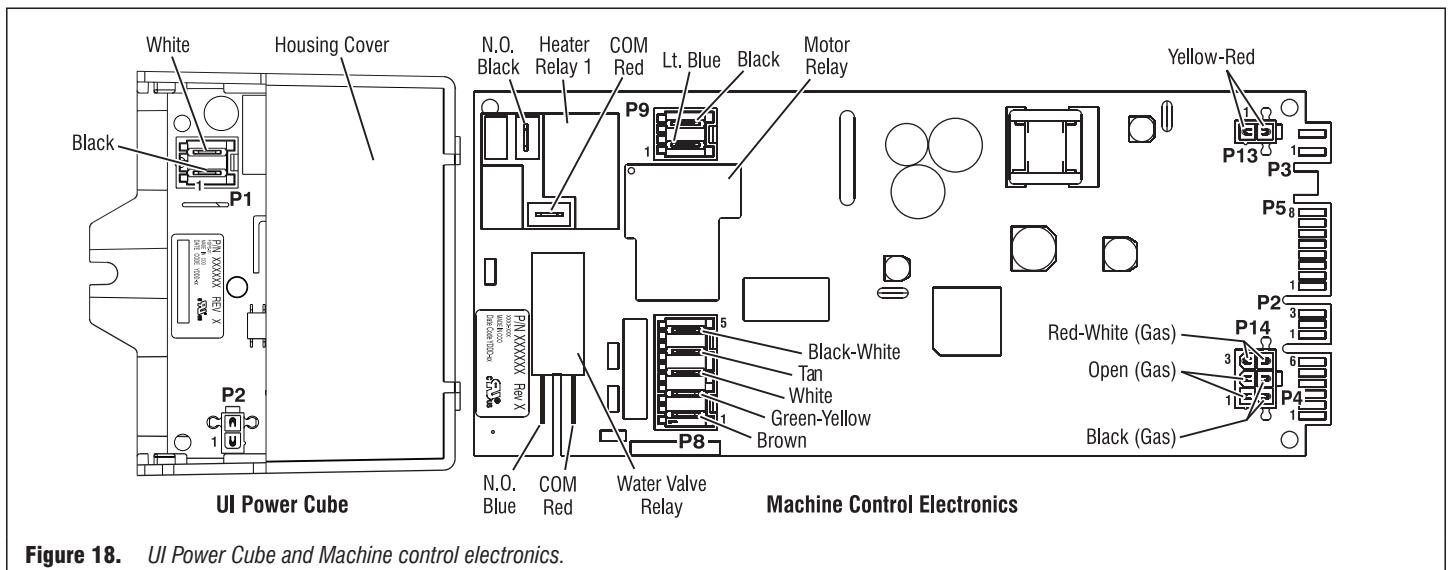

Figure 18. UI Power Cube and Machine control electronics.
1. Perform steps in Accessing & Removing the Electronic Assemblies, at right, and check that the wires are connected to the water valve relay on the machine control electronics. See figure 18, page 10.
3. Remove all the wire connections to the machine control electronics. See figure 18.
2. Remove all wire connections to the UI power cube. See figure 18.